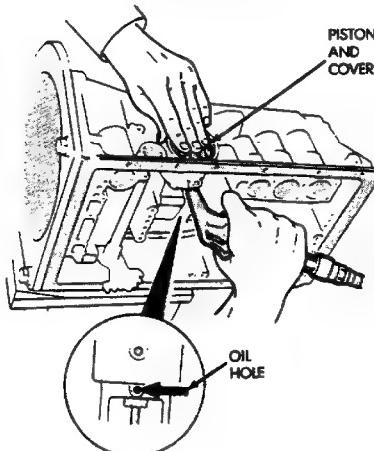

Fig. 32 Accumulator Piston-Springs-Spacers
(5) Install new O-ring seals on pistons. Lubricate seals and pistons and piston bores with transmission fluid.
(6) Install pistons and springs (Fig. 32).
(7) Install valve body, oil screen and oil pan.